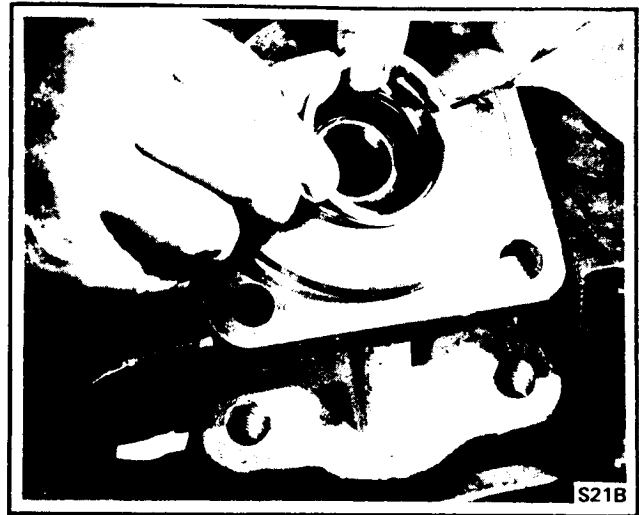

Fig. 24 Inserting Snap Ring
5. Insert the snapping into its groove to retain the outboard bearing. See Fig. 24.